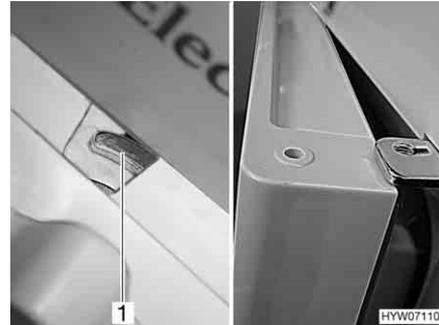

Fig. 224 Refrigerator door/freezer compartment door in ventilation position (Dometic 7 series with separate freezer compartment)
- Push the lock completely to the right. The door latch (Fig. 224,1) keeps the refrigerator door/freezer compartment door in a fixed position. The refrigerator door/freezer compartment door will then stay slightly open (Fig. 224).